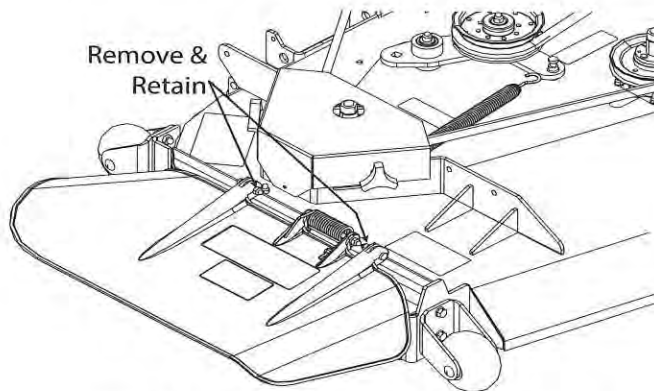

Figure 3-7. Removing the Discharge Chute
1. Remove the discharge chute from the machine. See Figure 3-7.